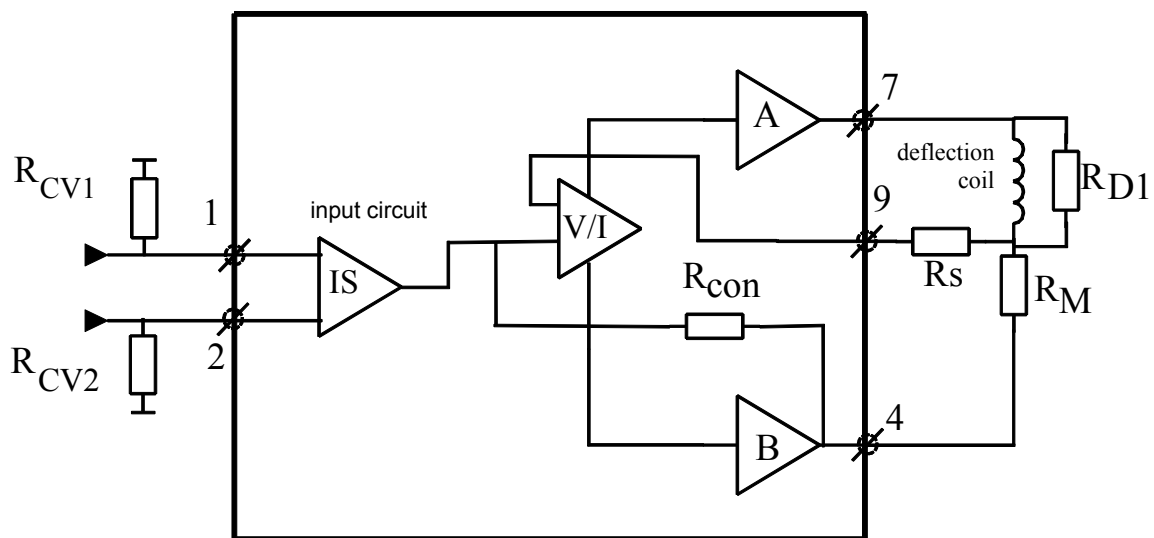

fig 4: Simplified block diagram of the vertical circuit.
Since the Input Stage (IS) is voltage driven, resistor R_{CV1} and R_{CV2} are used to convert the differential output current delivered by the TV signal processor (See fig 4). But TV signal processor circuits, which deliver an output voltage can also be used, in that case resistor R_{CV1} and R_{CV2} are not necessary.